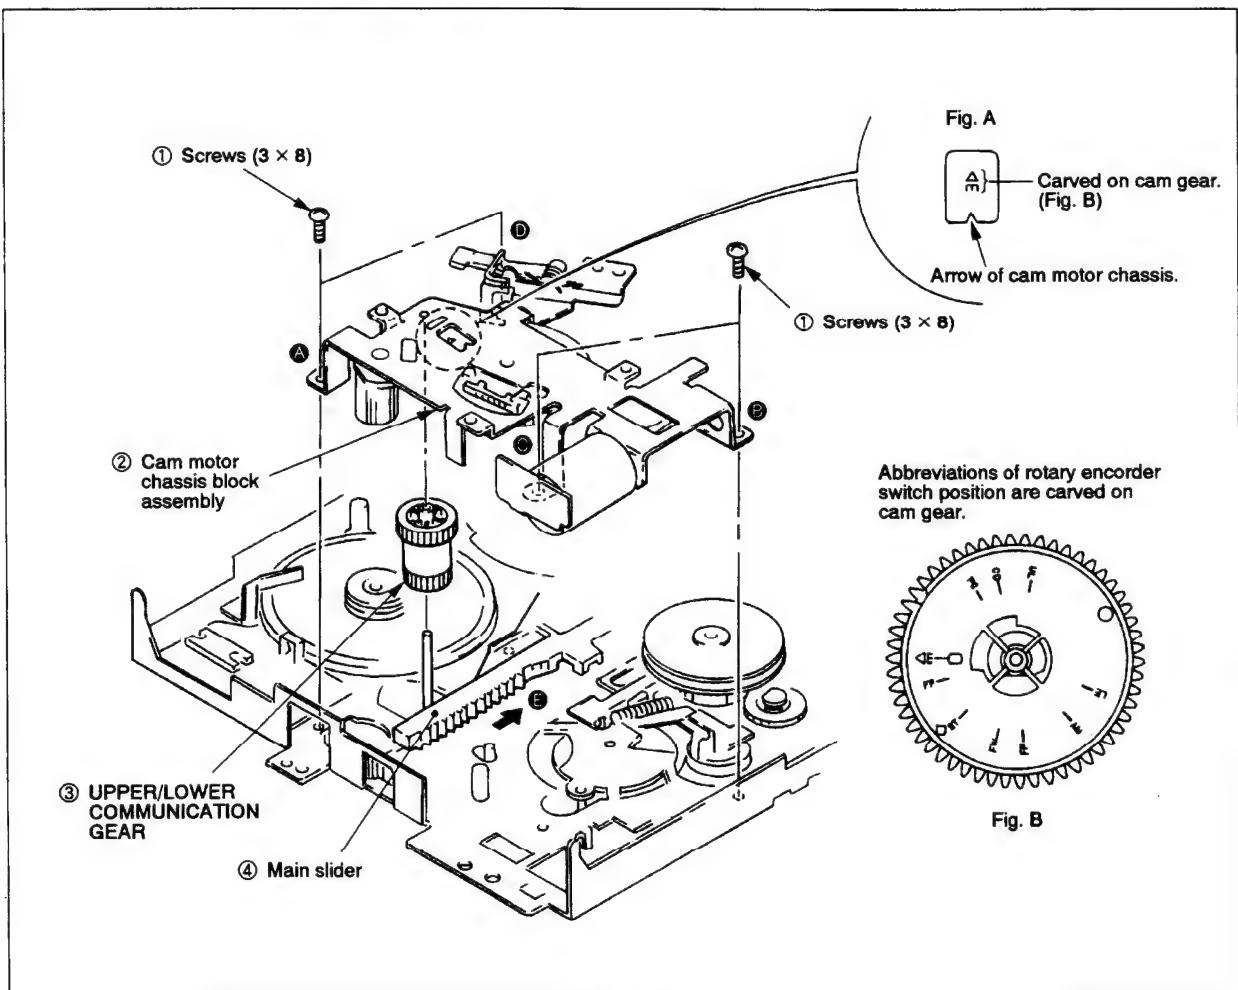

Fig. 3-18
3-16. CAM MOTOR CHASSIS BLOCK ASSEMBLY, UPPER/LOWER COMMUNICATION GEAR (Fig. 3-18)
- 1) Set the mechanism to the loading-end condition referring to 1-1. (Cam gear indicates "LE". (Refer to Fig. A and B of Fig. 3-18.))
- 2) Remove tension spring ① in the order A to B.
- 3) Remove stopper washer (2) ② to pull out TG1 assembly ③.